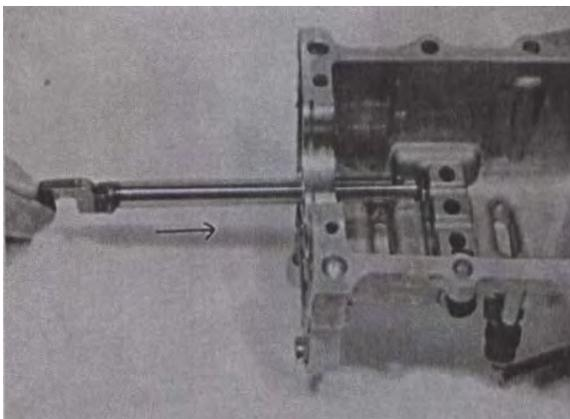

Fig 10-81
(2) Insert high speed gear shift shaft into upper case. (FIG.10-81)